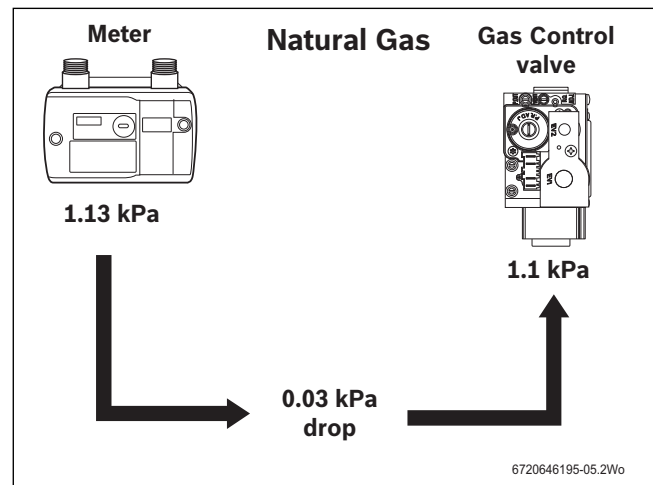

Fig. 59 Natural Gas pressures
- ▶ Check the gas supply working pressure at the gas valve conforms to values for the appropriate gas type shown in Figures 59 and 60.